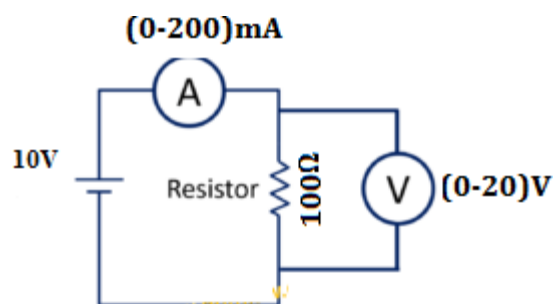

Fig.1
1. Connect the circuit as shown as in figure 1 with R1